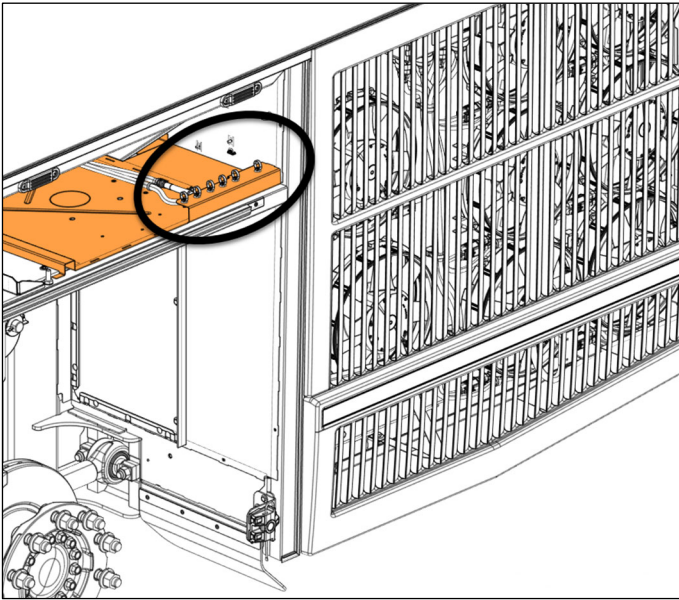

Figure 1: H3-45 Harness location
1. Locate the connector on the vehicle harness: refer to **figure 1** or **figure 2**